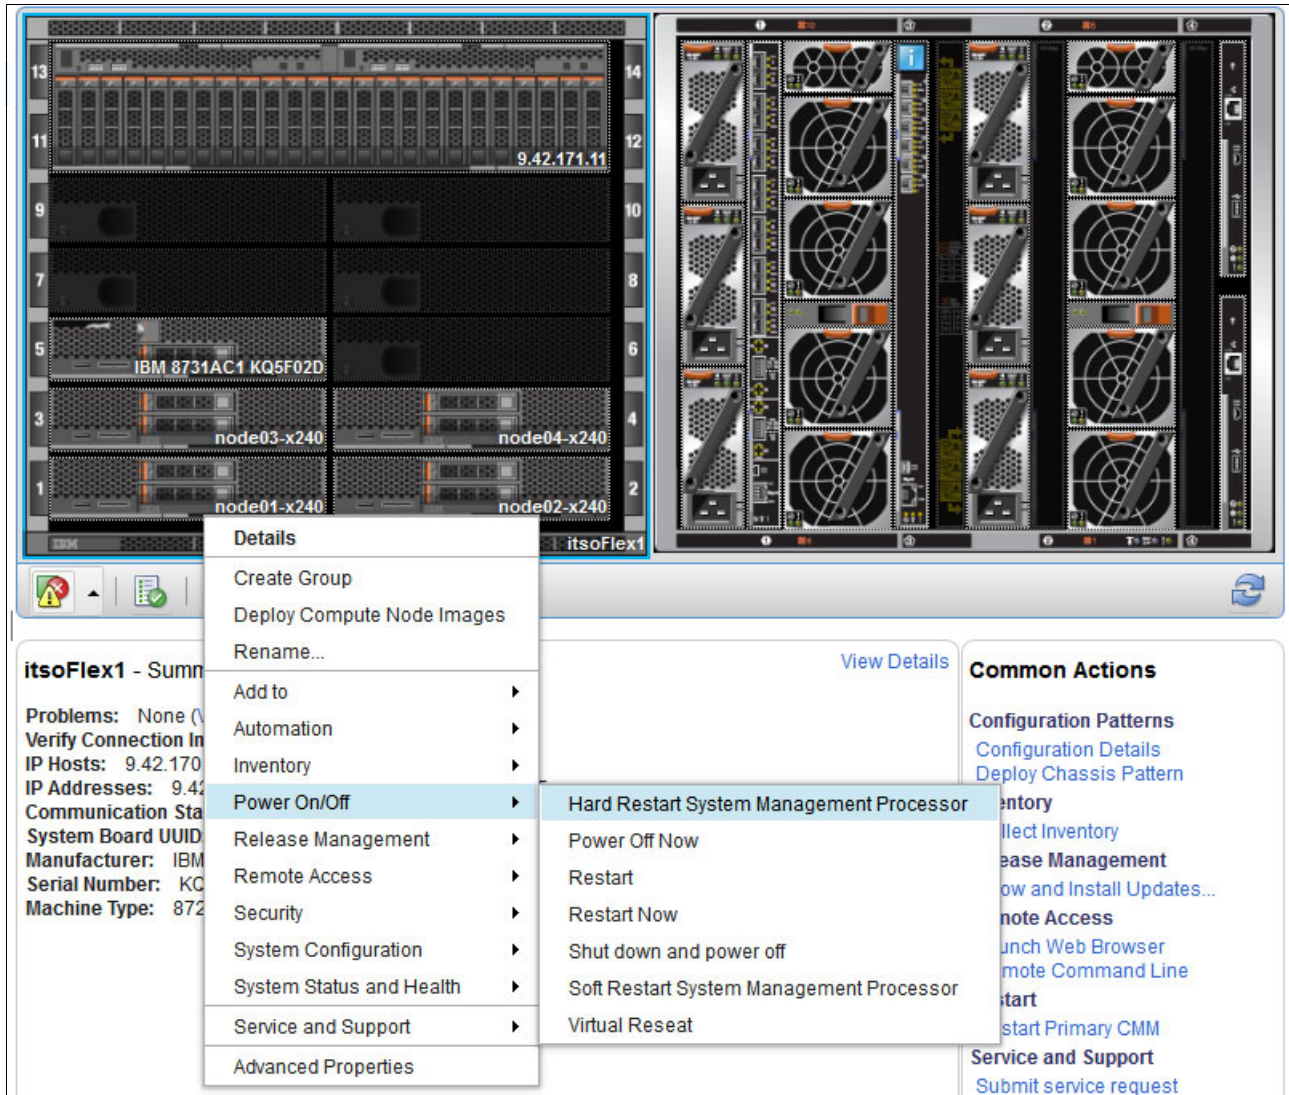

Figure 7-9 List of actions for the selected component (compute node)
- The full list of actions and details that are relevant to the selected chassis component can be displayed by right-clicking it, as shown in Figure 7-9.